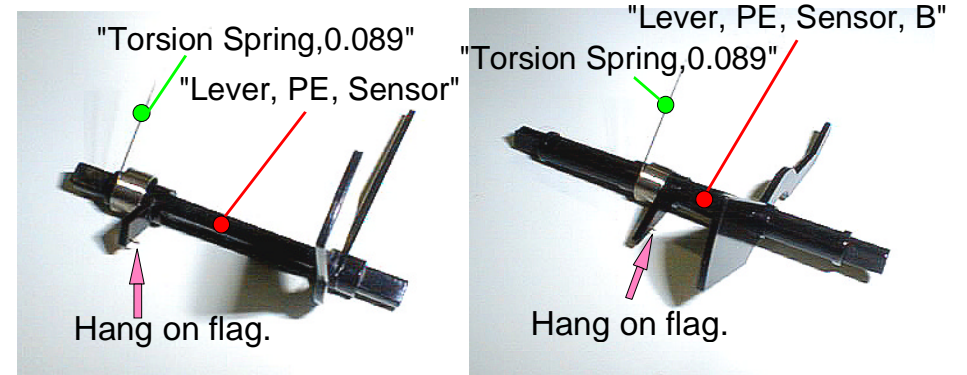

Figure 4-65. Installing "Lever, PE, Sensor(B)
4. Install "Torsion Spring,0.089" to "Lever, PE, Sensor" as it is shown in Figure 4-65. (Refer to Figure4-65)
5. Install "Torsion Spring, 0.089" to "Lever, PE, Sensor, B", as it is shown in Figure4-65. (Refer to Figure4-65)